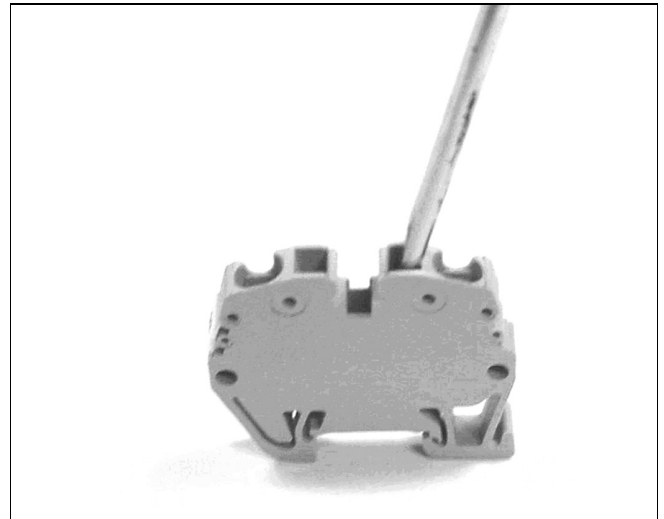

Figure 24. Screwdriver Inserted in the "Tool" Hole.
Step 2: Begin by inserting a small, blade screwdriver into the square (tool) hole with the flat surface of the screwdriver against the back wall of the hole (see Figure 24). With a little bit of force, push the screwdriver in on a slight angle toward the center of the clamp. Be sure to slide it in until it clicks. You will then see the clamp open in the wire hole.